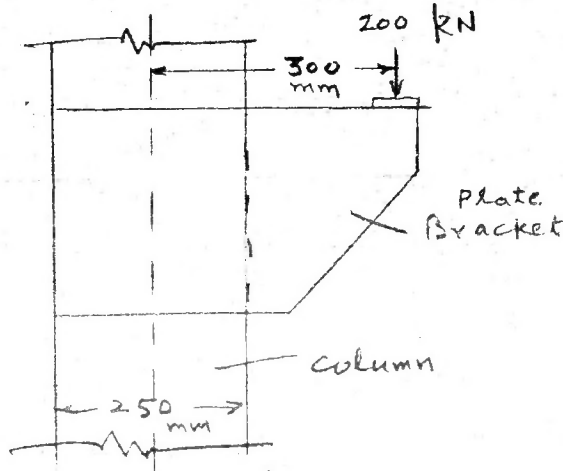

Fig 1.
- (b) A 10 mm thick bracket is bolted to the flange of a column ISHB 300 @ 577 N/m, as shown in Fig 1. The factored load 200 kN is eccentric by 300 mm. Using M20 bolts of grade 4.6, design the connection.